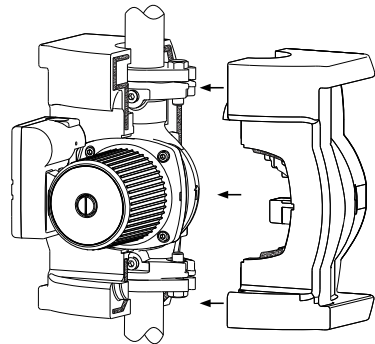

Fig. 6 Insulating shell installation (dotted areas indicate sealant)
3. Mate the two insulation shells over the pump volute as illustrated in fig. 6. If the shells do not mate; flange bolts are installed in the wrong direction, review step one and or switch mating shell location.